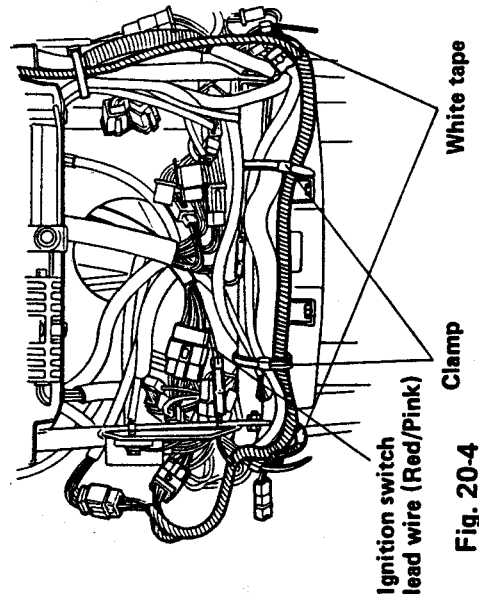

Fig. 20-4
- 1) Fit the two parts of the wiring harness marked by the white tape to the corners of the headlight lower brace and clamp the wiring harness as shown in Fig. 20-4. Connect the red/pink lead wire to the ignition switch lead wire (Red/Pink).